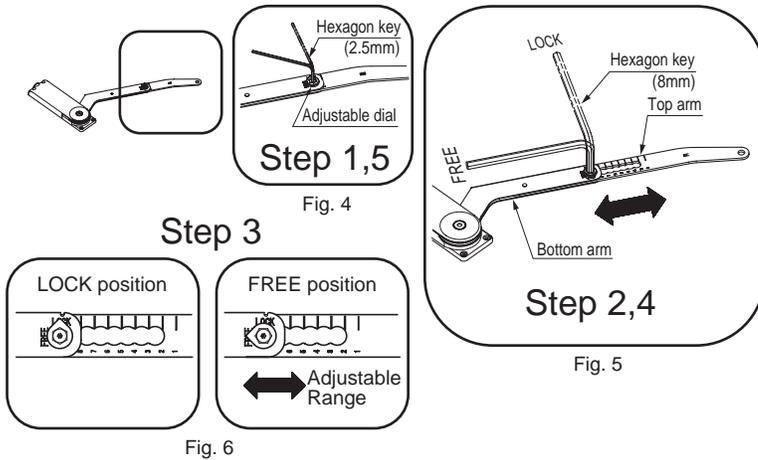

Fig. 4, 5, 6 Arm adjustment procedure (e.g. : type of arm M)
- Step 1. Using hexagon key (2.5mm) loosen the screw in the center of adjustable dial on the side-face of arm. (Fig. 4)
- Step 5. Using hexagon key (2.5mm) tighten the screw in the center of adjustable dial on the side-face of arm. (Fig. 4)